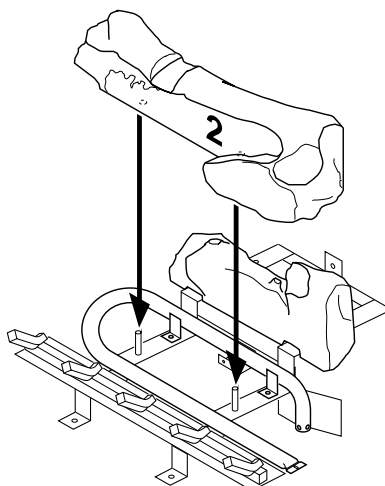

Figure 49 - Installing Log No. 2
2. Rest log #2 (large front log) on the pins on the front part of the grate (see Figure 49).